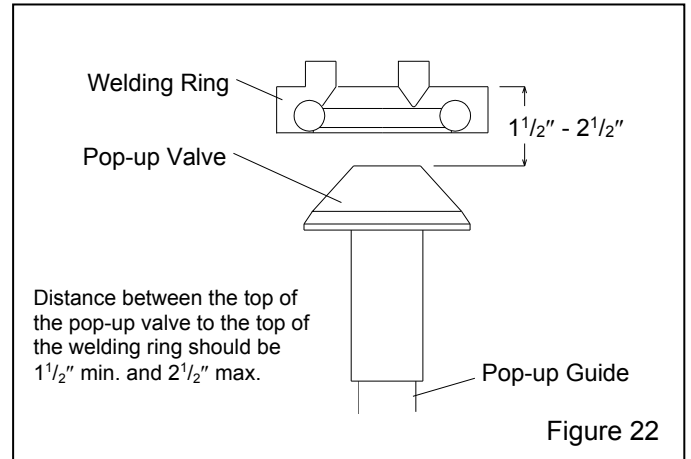

Figure 22
6.10.6 Refer to Figure 22 to check the pop-up height. If the pop-up sits too low, misalignment could occur when the pop-up comes up against the seal. If the pop-up sits too high, it will take longer for abrasive to flow through the opening when filling. Adjust the height by replacing the guide with one that is longer or shorter.